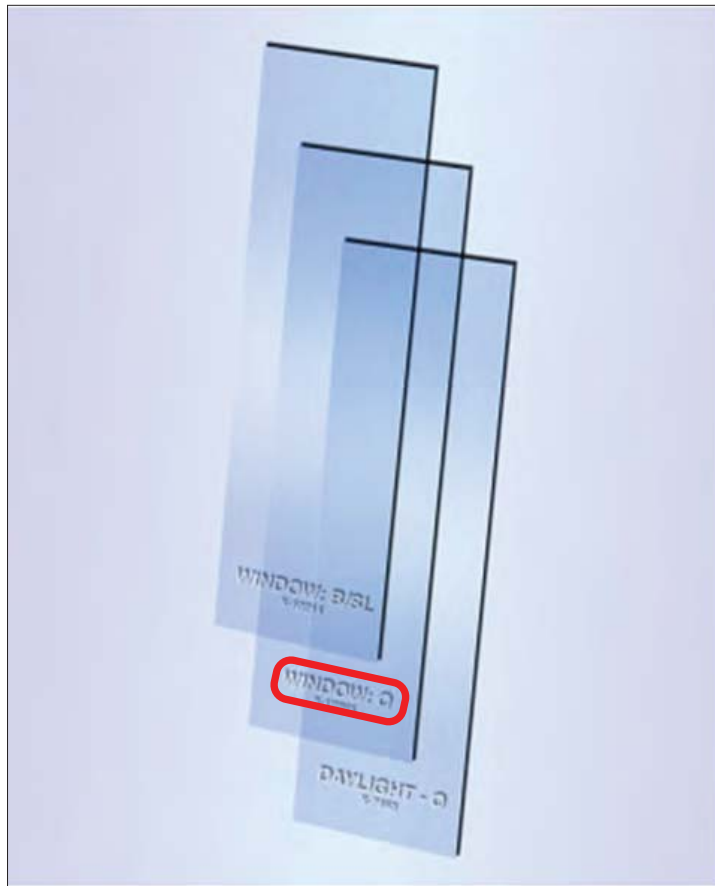

Figure 6.4a: Q-SUN Xe-1 UV filters are labeled with filter type.
- The filter type name is etched on the filters for easy identification (see Figure 6.4a).